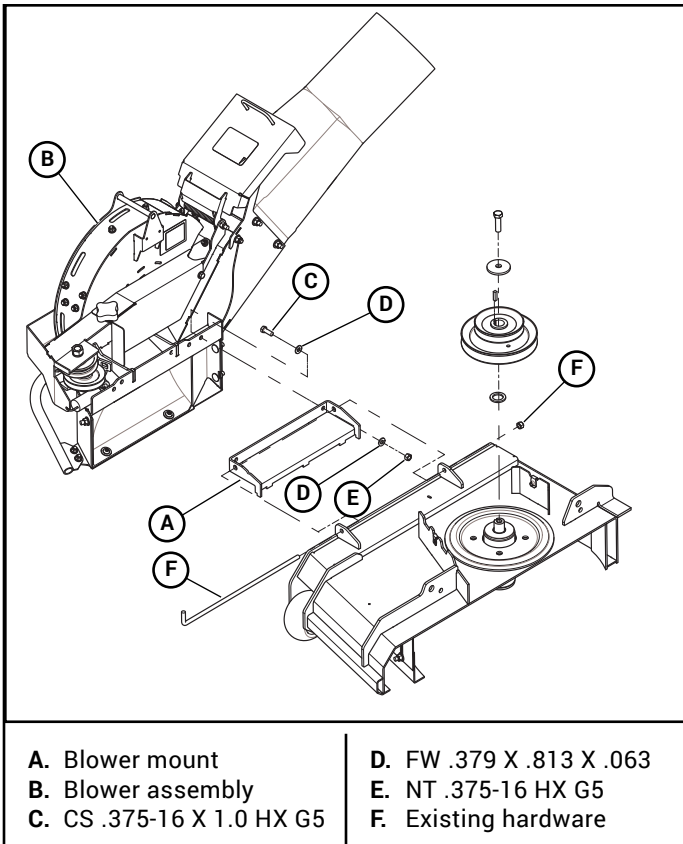

Figure 3-25
12. Assemble the blower mount to the blower assembly. Figure 3-25
13. Attach the blower assembly to the deck by inserting the rod through the discharge chute bracket and the blower mount and secure with a nut. Figure 3-25